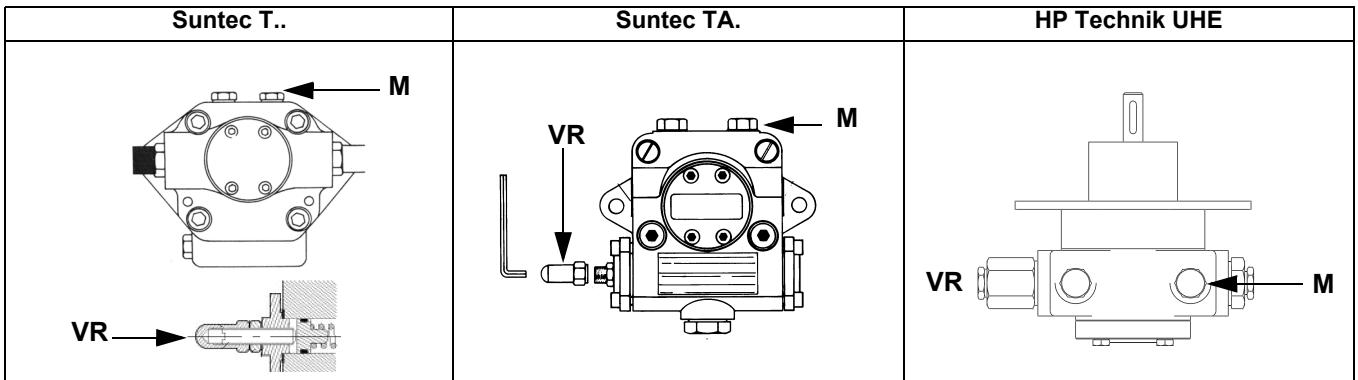

Fig. 23
- 3 bleed the air from the **M** pressure gauge port (Fig. 23) by loosing the cap without removing it, then release the contactor.
- 5 Only if necessary, adjust the supply pressure as follows (see related paragraph); insert a pressure gauge into the port shown on Fig. 24 and act on on the pump adjusting screw **VR** (see Fig. 23) as to get the nozzle pressure at 20bar (Monarch or Fluidics nozzles - see page 42-38).